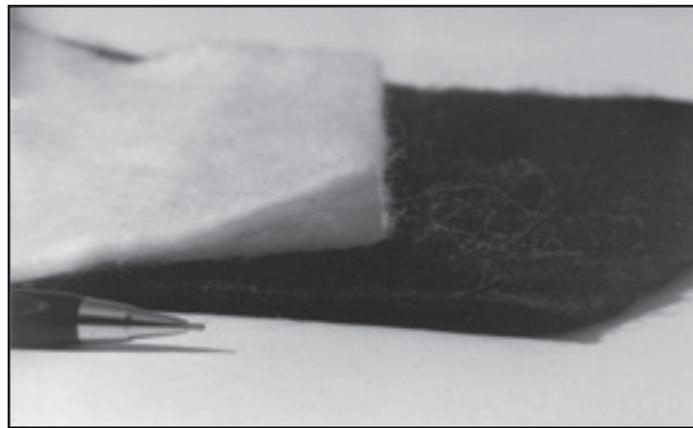

Figure 35—Felt-like geotextiles are easier to work with than heat-bonded, slit-film, or woven products with a slick texture.
**Geotextiles** (figure 35) are the most widely used geosynthetic material. Sometimes they are called construction fabrics. They are made from long-lasting synthetic fibers bonded to form a fabric that is used primarily for separation and reinforcement over wet, unstable soils. They have the tensile strength needed to support loads and can allow water, but not soil, to seep through.